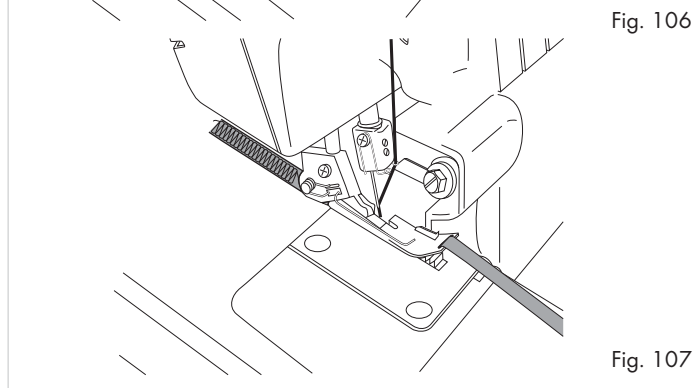

Fig. 107
4. Lay the cord inlay under the sewing foot 21 and chainstitch the desired length (Fig. 107).